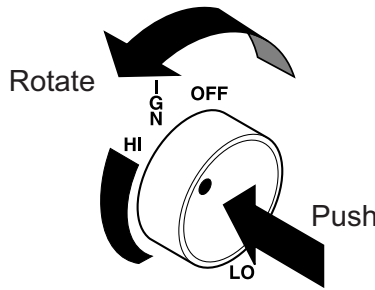

Figure 45 - HIGH Position
10. Push in control knob and turn counterclockwise  to the HIGH setting. At this location the control knob will pop out when positioned correctly. The knob can now be positioned at any position between HIGH and LOW. Refer to *Figures 45 and 46*.